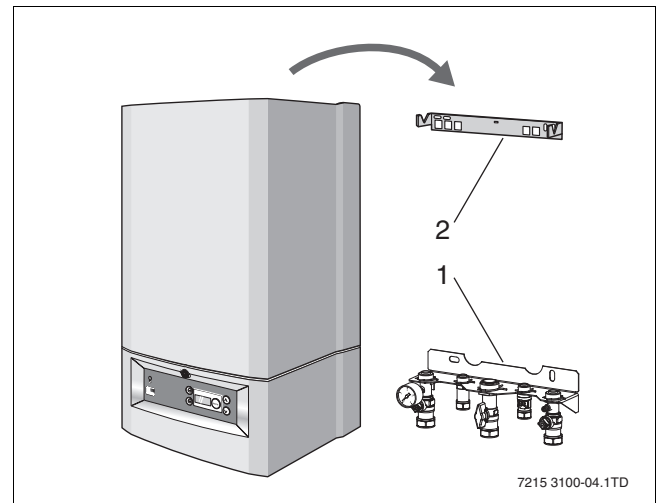

Fig. 4 Installation
- Attach the manifold assembly to the wall (→ fig. 4, item 1).
- Attach the wall bracket (→ fig. 4, item 2).
- Hang the condensing gas boiler onto the wall bracket (→ fig. 4).